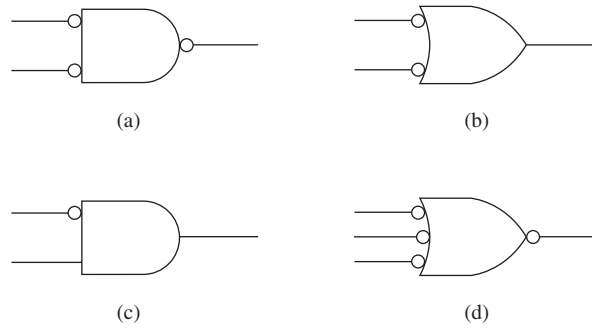

Figure P5-29
- 5-29.** Use the bubble-pushing technique to convert the gates in Figure P5-29.